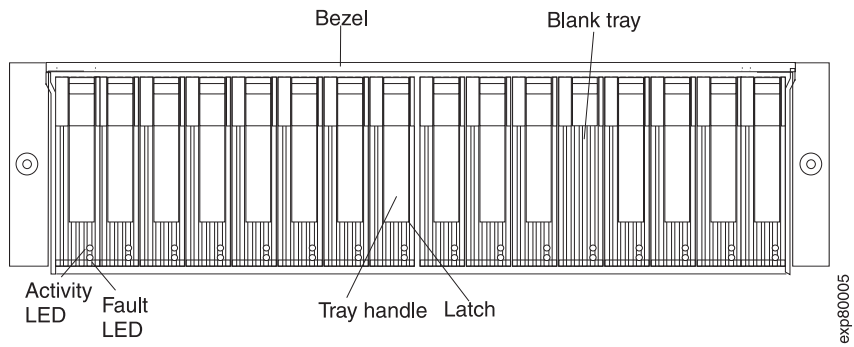

Figure 110. Hot-swap E-DDM LEDs
2. Check for Fault LEDs shown in Figure 110 on page 154. If any amber LEDs are lit, see “Solving problems” on page 183.